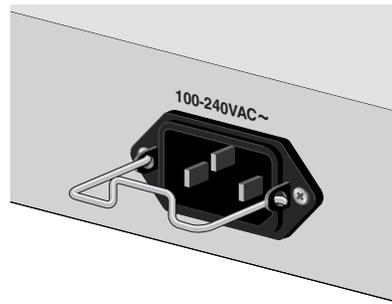

Figure 9. Retaining Clip Properly Installed in the Bracket
4. Verify that the retaining clip is in the correct position, as shown in Figure 9.